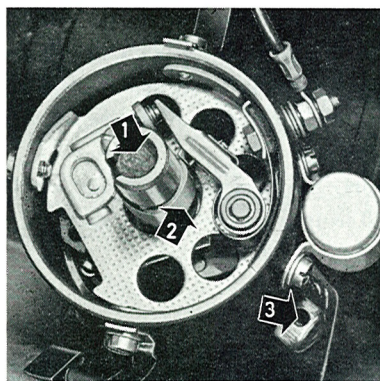

Fig. 1-9. Distributor
After every 10,000 km (6,000 miles) the distributor shaft, cam and ignition advance mechanism should be lubricated. The distributor shaft is lubricated by filling the oil cup (3, Fig. 1-9) with engine oil. After filling, close the cup. The contact surface of the cam (2) should be lubricated with a thin coating of grease, Bosch Ft 1 v 4, or corresponding grease. The ignition advance mechanism should be lubricated by pouring 2—3 drops of light engine oil (SAE 10 W) on the wick (1) in the distributor shaft.